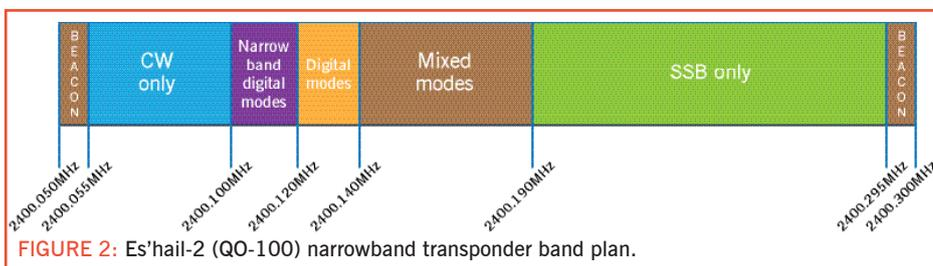

FIGURE 2: Es'hail-2 (QO-100) narrowband transponder band plan.
The QO-100 narrowband uplink frequencies are from 2400.050 to 2400.295MHz, corresponding to downlink frequencies of 10489.550 to 10489.795MHz. I decided to make it easy for myself and selected a LO that made the last digits of the drive frequency match those of the downlink, which reduces the necessity for mental arithmetic when tuning. **Table 1** lists some selected dial, uplink and downlink frequencies. **Figure 2** shows the uplink band plan; note that the downlink frequencies are 8089.5MHz higher than the uplink frequencies.
**DO NOT USE FM.** Please, please follow the band plan, as shown in Figure 2. Note that the frequencies shown there are *uplink* frequencies. Some sample input (dial), uplink and output frequencies are shown in Table 1.